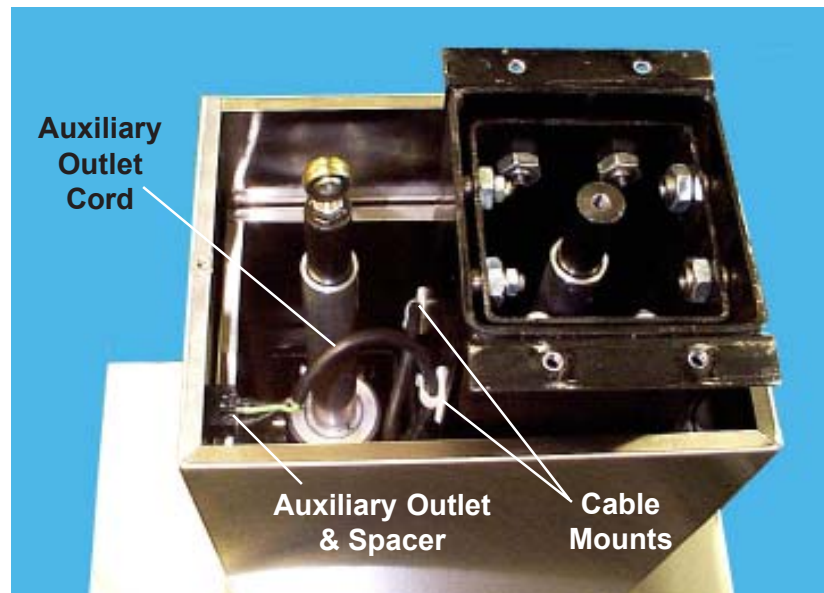
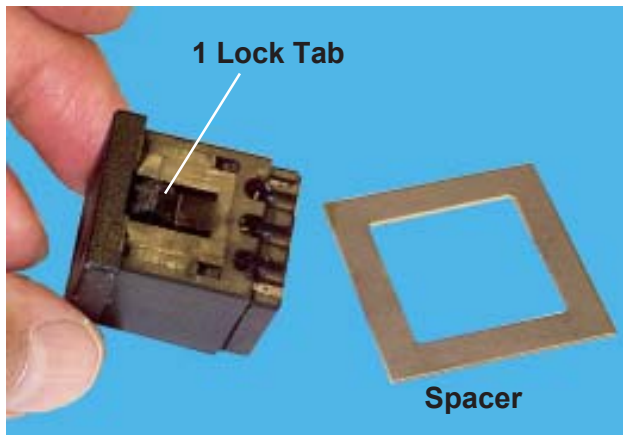

Figure 32. Auxiliary Outlet, Cable and Cable Mounts
Figure 33. Auxiliary Outlet - Top
Note: You must now remove the auxiliary outlet (Figure 32) from the base. Figures 33 and 34 show top and bottom views of the outlet removed from the unit, and show you the lock tabs that hold it to the outside cover. Note that there is one lock tab on top, and two on the bottom. The tabs can be squeezed inward to release the outlet.
13. Remove the spacer from the cord (Figure 33).
10. Run the auxiliary outlet cable through the spacer, then through the outlet hole in the outside cover (Figure 32).